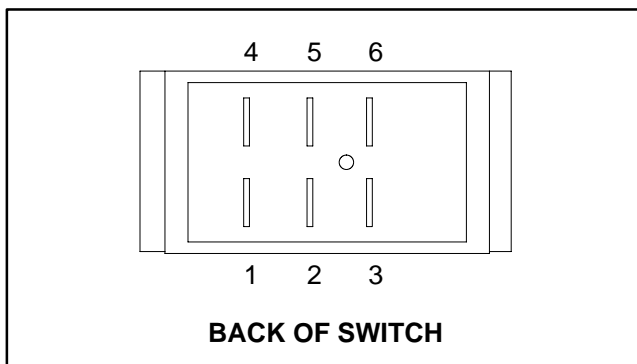

Figure 29
3. The switch terminals are marked as shown in Figure 29. In the boom raise or pressure decrease position, continuity should exist between terminals 2 and 3 and also between terminals 5 and 6. In the neutral, center position, there should be no continuity between any switch terminals. In the boom lower or pressure increase position, continuity should exist between terminals 2 and 1 and also between terminals 5 and 4.